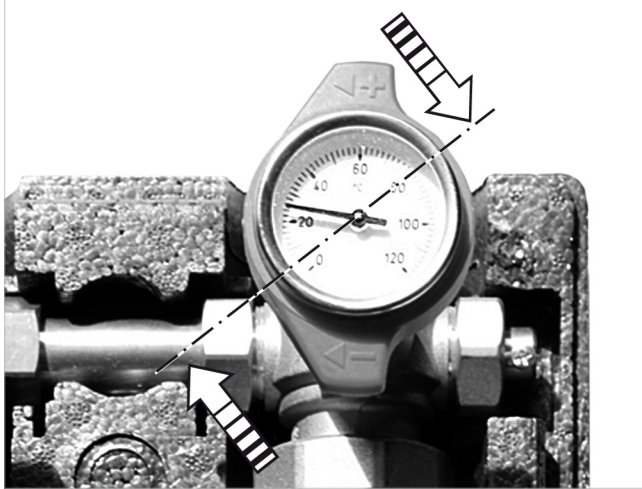

Fig. 46: Ball valve with built-in thermometer
- When the ball valve handle is at a 45° angle (dashed line in → Fig. 46), the gravity brake is open.